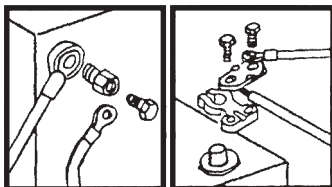

Fig. 1 Fig. 2
- a. When attaching cables to battery with side post terminals, use M.P. Adaptor Part #21976 and attach as shown in Figure 1.